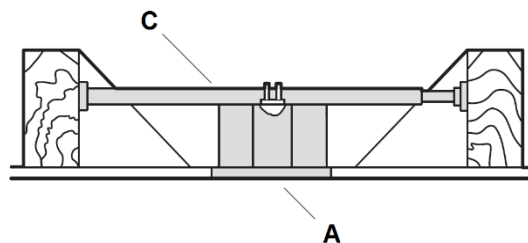

Fig. 5
To hang your fan where there is an existing fixture but no ceiling joist, you may need an installation hanger bar (C) as shown in **Fig. 5**. Make sure the hanger bar you purchase has been designed for use with ceiling fans.